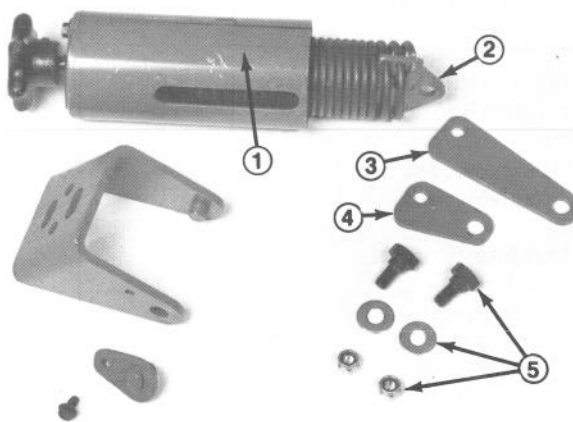
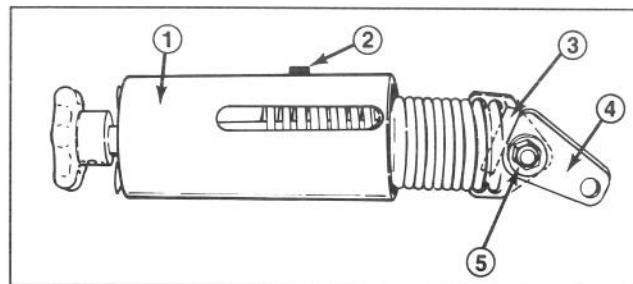

Figure 4
Figure 5
5. Attach the knee link bracket(s) to the bottom spring end plate(s) using a shoulder bolt, flatwasher, and locknut (Fig. 4). Do not over tighten the shoulder bolt, bracket should pivot freely. Position brackets as shown in figure 5.